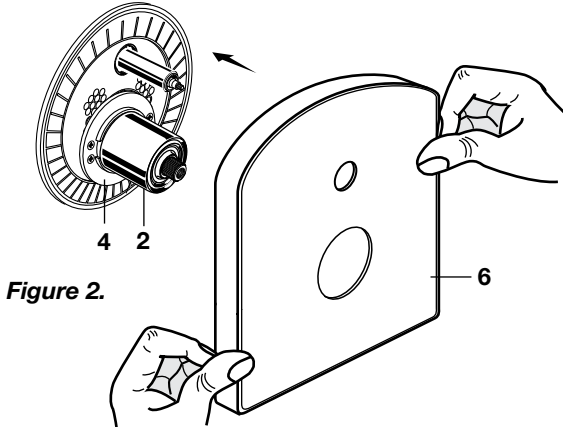

Figure 2.
- **Figure 2.** Install ESCUTCHEON (6) onto CAP (2) and push flush against finished wall. Escutcheon (6) will snap fit onto ESCUTCHEON SUPPORT (4).